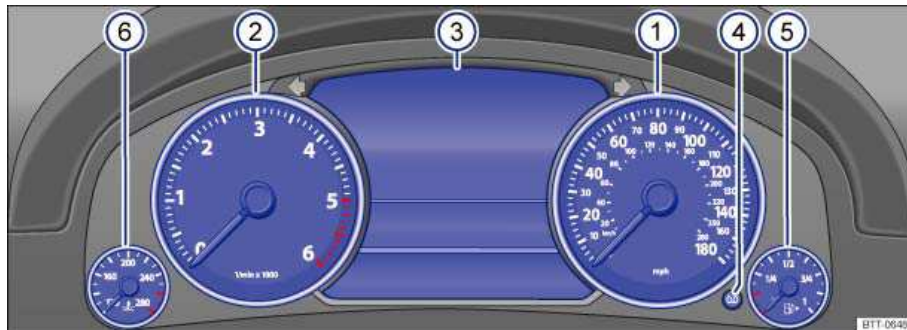

Fig. 13 Instrument cluster in the instrument panel.
Instrument explanations to fig. 13:
Depending on the vehicle model, different information may be shown in the instrument cluster display ⇒ fig. 13 (4) ⇒ fig. 14 (4).
The service appointment reminder is shown in the instrument cluster display ⇒ fig. 13 \(3\) ⇒ fig. 14 \(3\). For more information, please See ⇒ Booklet *Warranty and Maintenance*.